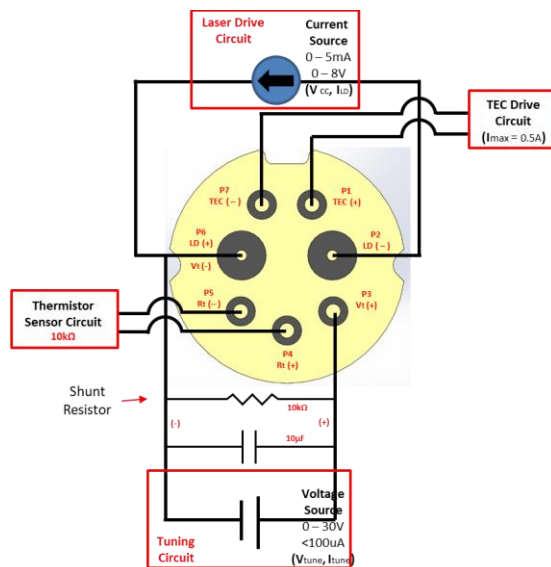

Figure 1: Electrical connection of the sweeping devices.
In Figure 1 the connection of the device is illustrated. In a laboratory environment we do recommend Keithley 2400 devices as current and voltage sources.
- As noted on the previous page and shown on the diagram in Figure 1, the tuning bias voltage should be applied between the tuning pin (P3 / Vt+) and the laser drive pin (P6 / LD+).
- Notice that the wavelength tuning is approximately quadratic with voltage, so we recommend a 10 μ F capacitor and 10 k Ω resistor in parallel with the tuning voltage source to reduce noise and guard against any transients. (see Figure 1). However, the capacitor might limit the sweep rate for the application.